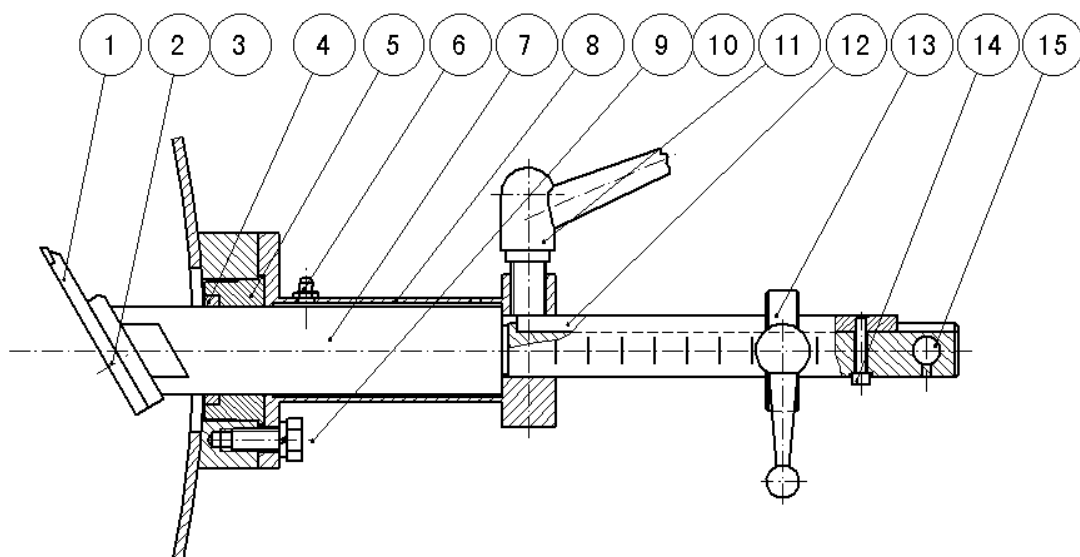

Figure 12 KNIFE ASSEMBLY STRUCTURE
See Figure 12 for the structure and working principle of the pellet chamber. It mainly consists of a die, two rollers, deflectors, knives and screw for adjusting the clearance between die and rollers.
4.2 Adjustment of die-roller clearance (see Figure 12)